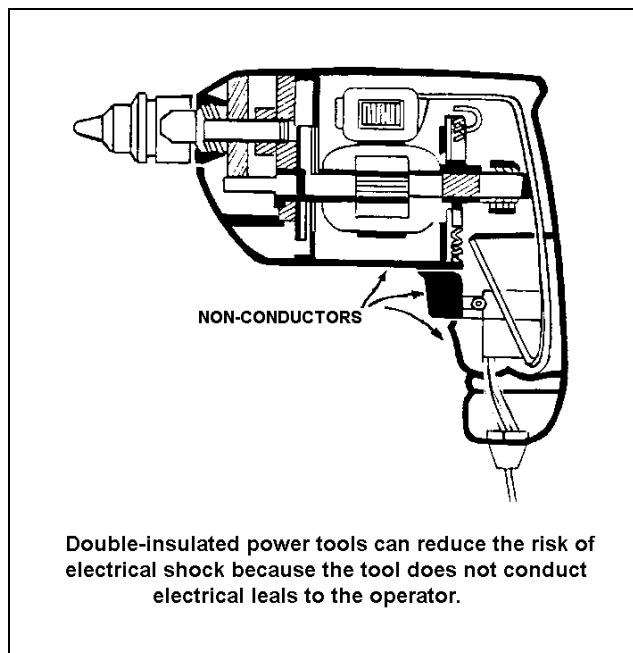

Figure 1.
- d. Replace your present tools with new double insulated tools (see Figure 1).